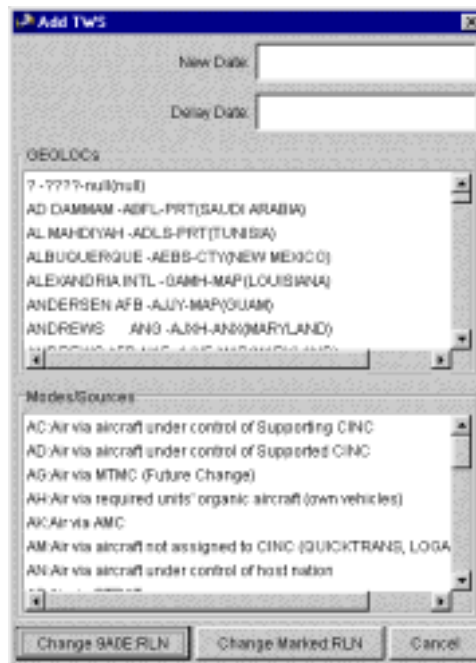

Figure 5.70 Add TWS Window
5. Click the Add TACWAR Start Location command. The Add TWS window opens (Figure 5.70).